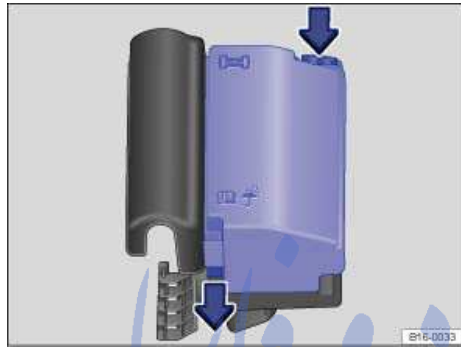

Fig. 170 In the engine compartment: Fuse box cover.
- Move the release tabs in the direction of the arrows ⇒ fig. 170 to unlock the fuse box cover.